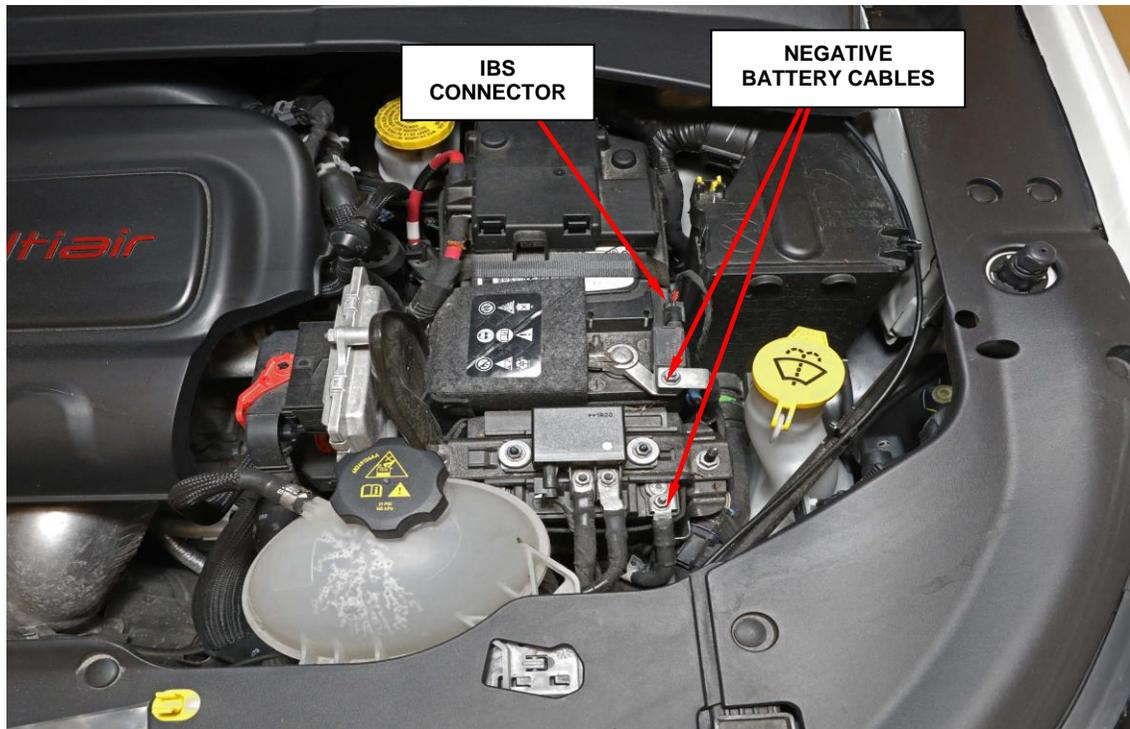

Figure 1 - Batteries
1. Disconnect and isolate the negative battery cable. If equipped with an Intelligent Battery Sensor (IBS), disconnect the IBS connector first before disconnecting the negative battery cable. Wait 2 minutes for the system capacitor to discharge before continuing service (Figure 1).